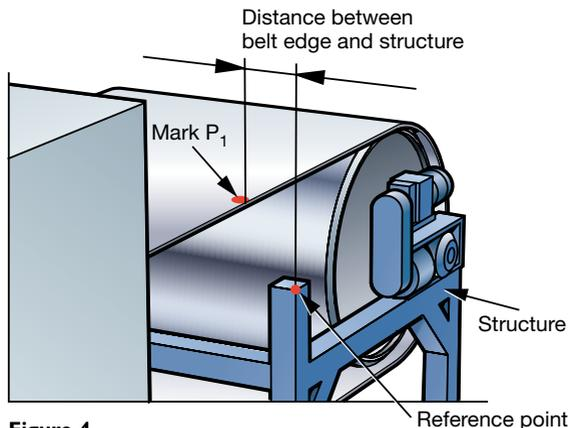

Figure 4
- Let the belt run and measure the distance between the edge of the belt and the structure when the marked points pass the reference point, see figure 4.